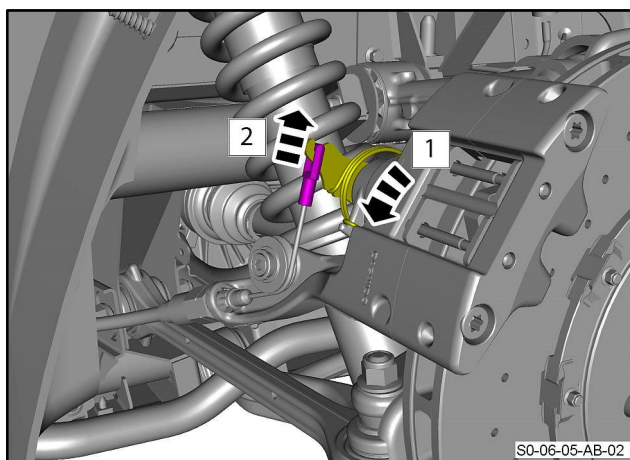

Figure 14
- 15** Connect the park brake cable to the lever for the park brake caliper (refer to Figure 14).